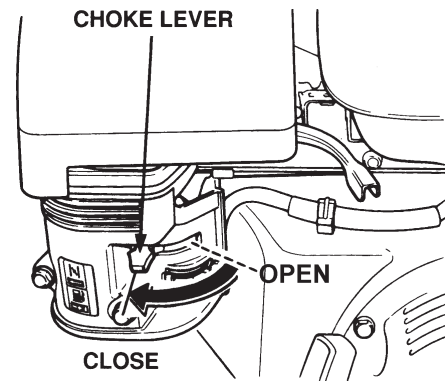

Figure 26. Engine Choke Lever
4. Place the **Choke Lever** (Figure 26) in the "**OPEN**" position
6. If the engine has started, slowly return the choke lever (Figure 26) to the **CLOSED** position. If the engine has not started repeat steps 1 through 5.